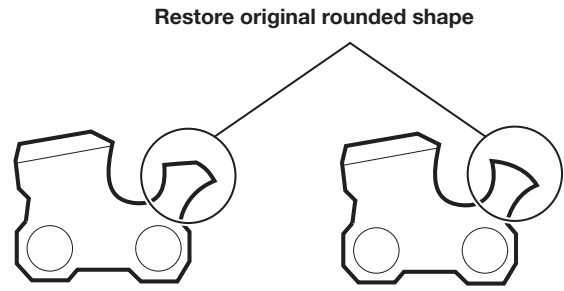

Fig. 40
- After lowering the depth gauge, use the flat file to restore the original rounded shape to the depth gauge (Fig. 40). Take care not to damage the cutting edges or nearby links.